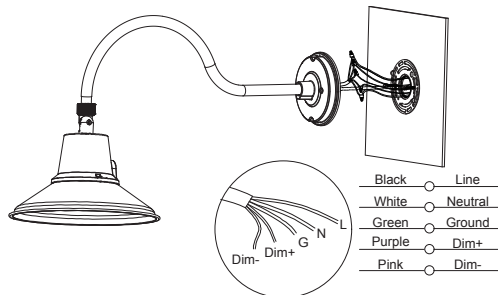

Fig 5
4. Align the Mounting Plate to the hole of the junction box and tighten it with screws. (Fig 5)
5. Connect the corresponding terminals according to the wiring diagram, connect L, N, and ground wires correctly. (Fig 5)